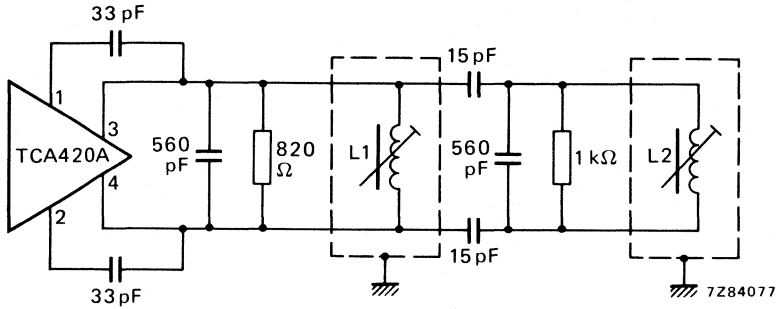

Fig. 18 Example of the TCA420A when using a detector with two tuned circuits; $f_o = 10,7 \text{ MHz}$; $L1 = L2 \approx 0,4 \mu\text{H}$; $Q_o = 70$.
- (1) Detector coil: see Fig. 18.
- (2) De-emphasis: mono: C5-6 = 10 nF stereo: C5-6 = 220 pF
- (3) Capacitor should be connected as short as possible to pin 11 and pc-board ground.
Fig. 19 Total distortion as a function of detuning; circuit as Fig. 18; $f_m = 1 \text{ kHz}$; $C_{5-6} = 220 \text{ pF}$. $V_o = 500 \text{ mV}$ for a frequency deviation $\Delta f = \pm 75 \text{ kHz}$ and $d_{tot} < 0,1\%$.